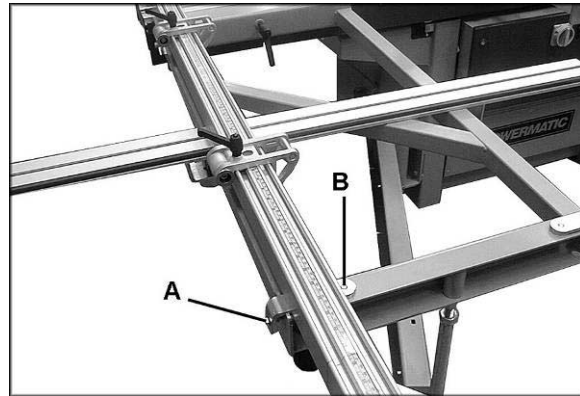

Figure 29
1. Loosen the two bolts (A, Figure 29).
2. Turn bolt (B, Figure 29) to open or close the angle of the fence in relation to the saw blade.
3. Re-tighten bolts (A, Figure 29).